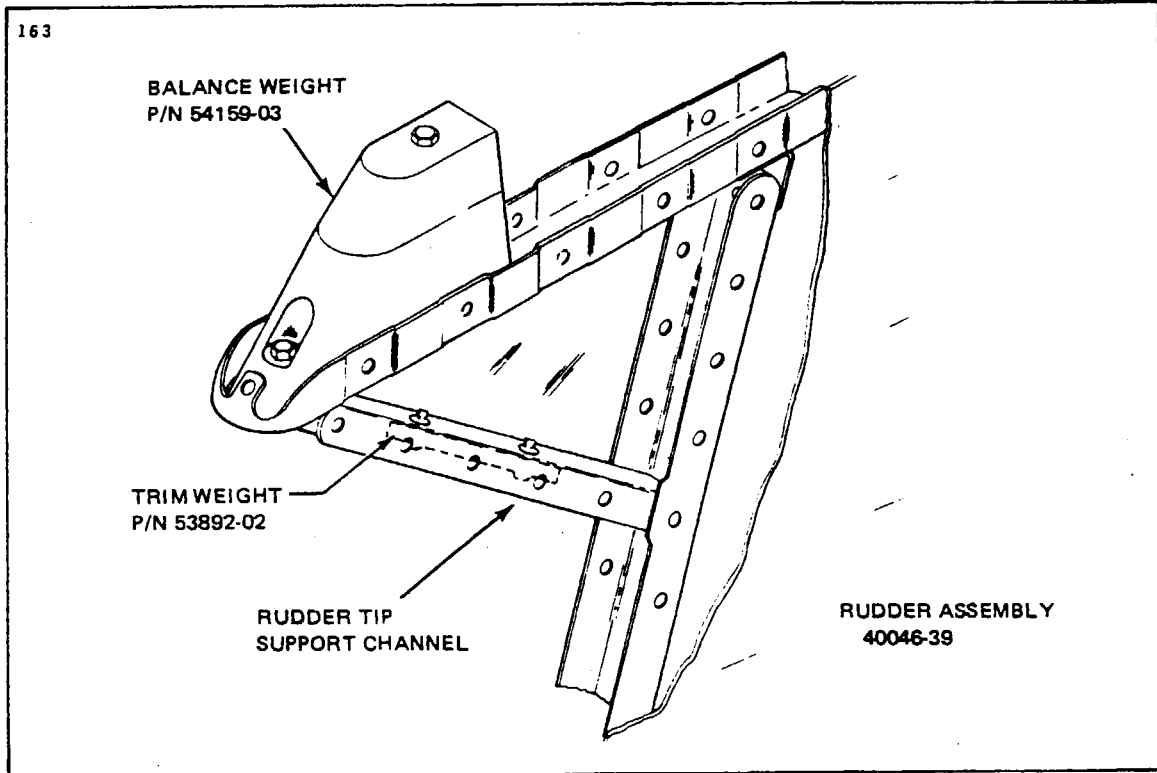

Figure 4-23. Balancing Rudder
2. For rudder P/N 40046-39 (Refer to Figure 4-23).